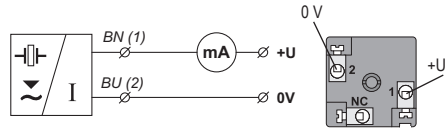
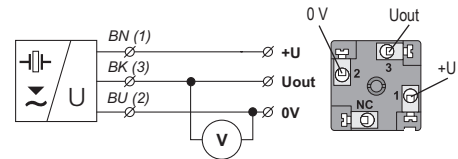
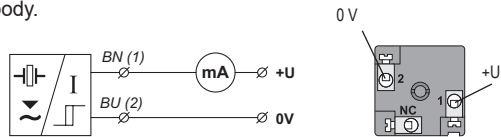
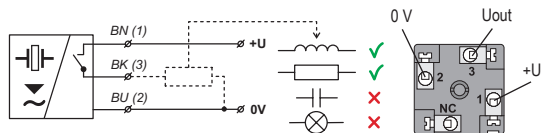

Fig. 17: Connection diagram of the ULM level meter (variant -I) and inside view of the connector
Fig. 18: Connection diagram of the ULM level meter (variant -U) and inside view of the connector
Fig. 19: Connection diagram of the ULS sensor with S type output (two-state current switch 4 mA / 20 mA)
Fig. 20: Connection diagram of the ULS sensor with P type output (PNP) with an open collector
The ULM level meter or ULS level sensor with a G type cable gland are connected to processing (display) units by means of a cable with an outer diameter of 6 to 8 mm (recommended wire cross-section 0.5 to 0.75 mm²), via a detachable ISO connector with inner screw terminals, which is part of the delivery. The connection diagram and the inner view of the connector are shown in Fig.17 and 18. Non-detachable connector IP67 with PVC cable 5 m long can be supplied as an extra option.
4. Connect the cable wires to the screw terminals as shown in Fig. 17 (current output 4-20 mA), Fig. 18 (voltage output 0-10 V), Fig. 19 (S type output) or Fig. 20 (P) type output. Tighten the terminals firmly.